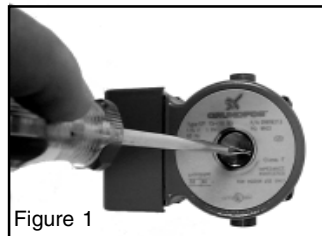

Figure 1
- Remove the four (4) Allen screws (4 or 5 mm wrench).
- For all circulators except the BRUTE UP 15 - 42: Insert a large flat blade screw driver or suitable punch into the screw in the middle of the nameplate (see figure 1) and gently tap until the entire cartridge canister assembly, complete with rotor and impeller, is free to be removed. Do not attempt to pry out the cartridge at the stator / volute mating joint.